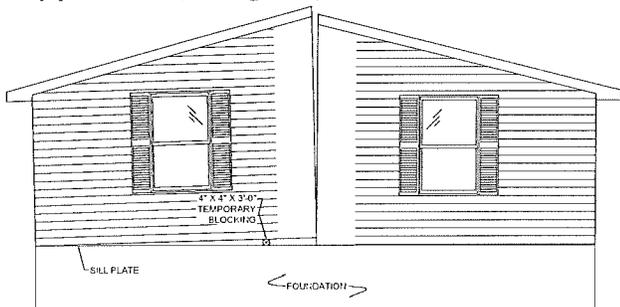

Figure 5
At this time, additional section(s) are ready to be set using the same procedures as described above. As subsequent units are placed on the foundation, a 4" x 4" block should be placed on the endwall foundation within four (4) foot of the previously placed unit (see **Figure 5**).